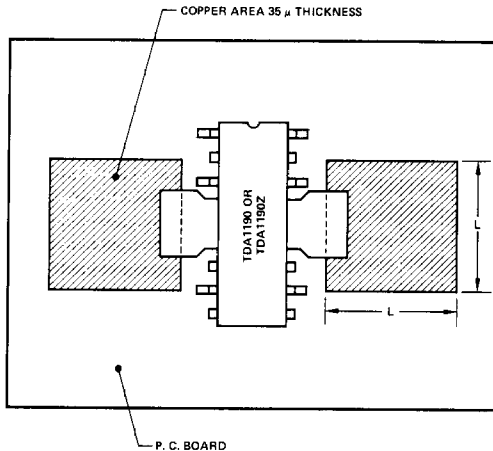
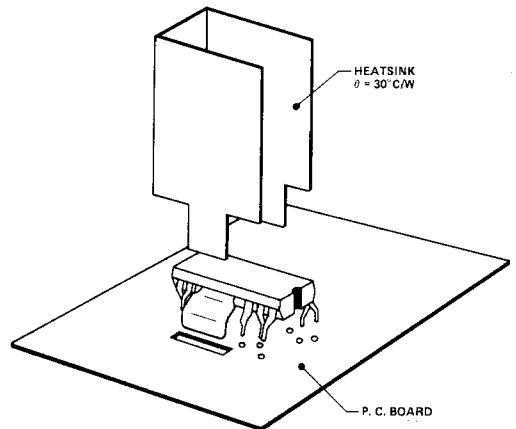
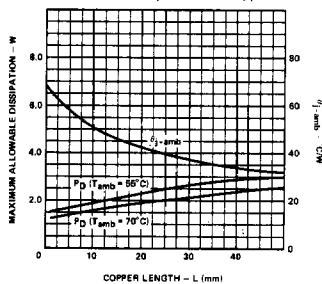

Fig. 6
Fig. 7
Fig. 8
The  $\theta_{j-amb}$  of the TDA1190 and TDA1190Z can be reduced by soldering the tabs to a suitable copper area of the printed circuit board (Fig. 6 or to an external heatsink (Fig. 7). Figure 8 shows the maximum allowable power  $P_D$  and the  $\theta_{j-amb}$  as a function of the side "L" of the two equal square copper areas having a thickness of  $35 \mu$  (1.4 mils). During soldering the tab temperature must not exceed  $260^\circ\text{C}$  and the soldering time must not be longer than 10 seconds.
**MAXIMUM ALLOWABLE DISSIPATION AND  $\theta_{j-amb}$  AS A FUNCTION OF COPPER LENGTH (SEE FIG. 6)**